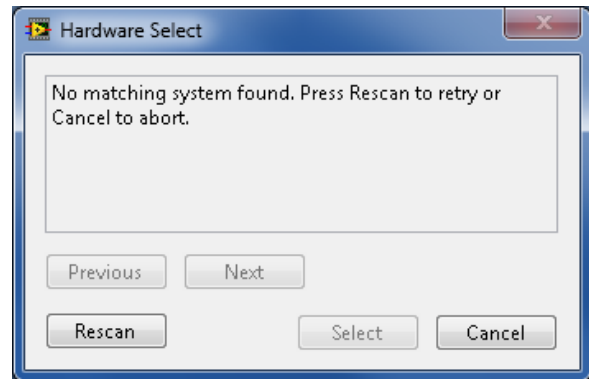

Figure 3. Connectivity Error
2. If the SDP board is not connected to the USB port when the software is launched, a connectivity error displays (see Figure 3.). If this message appears, connect the evaluation board to the USB port of the PC, wait a few seconds, click **Rescan**, and follow the on-screen instructions.